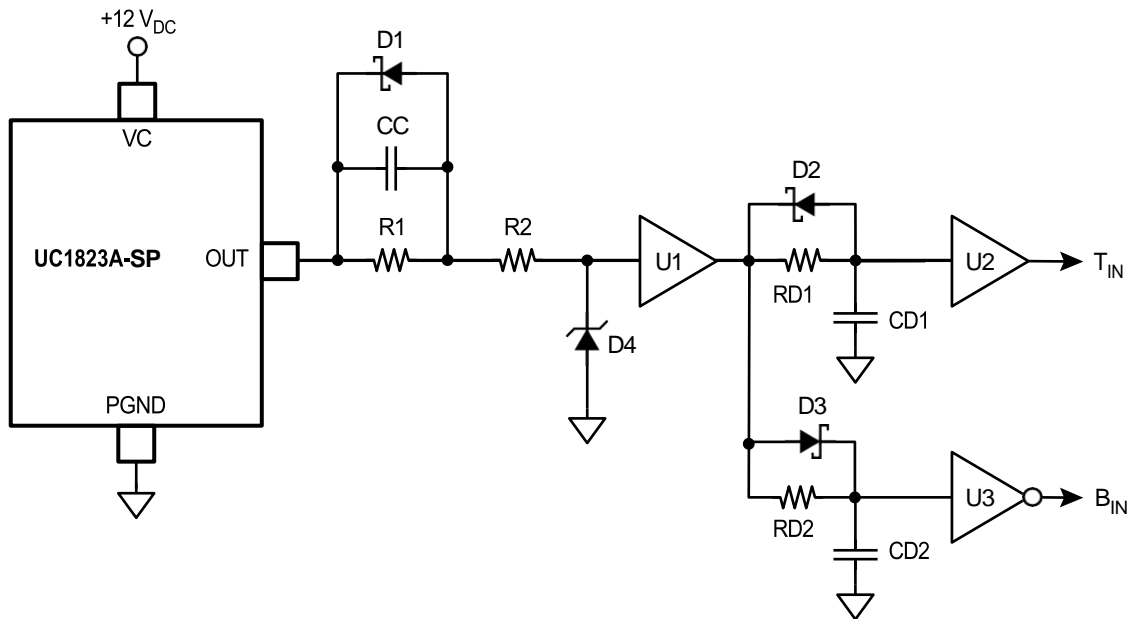
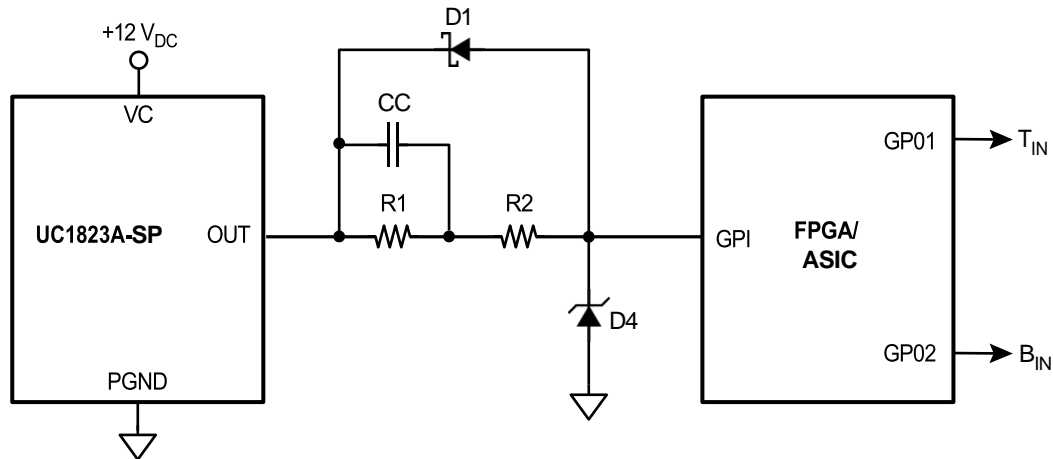
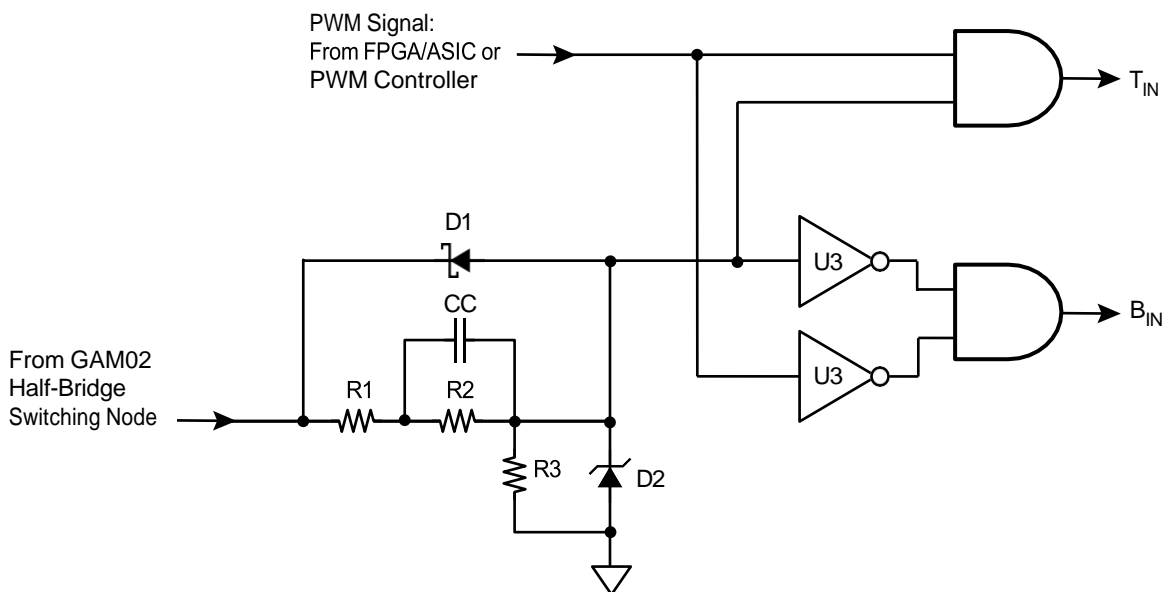

Figure 15. Zener Diode Logic Input Voltage Clamp Circuit and Dead Time Delay Circuit
Figure 16. Zener Diode Logic Input Voltage Clamp Circuit with ASIC/FPGA Two-Phase Clock (With Dead Time) Generator
Figure 17. Adaptive Dead Time Control for Cross-Conduction/Shoot-Through Avoidance
A Zener diode may be used to clamp the B_{IN} and T_{IN} logic inputs of the FBS-GAM02-P-C50 in order to interface the module to a high output voltage level PWM controller, as shown in Figure 15. The output of the UC1823A is a totem-pole configuration, and the output switches between $0 V_{DC}$ and $12 V_{DC}$ as logic 0 and logic 1, respectively. The transition times between logic states for a 1000 pF load are typically 20 ns, but much faster with lighter loads.
The same Zener diode clamping circuit as shown in Figure 15 may be used to clamp the output of the UC1823A to a lower voltage level in order to present it to an ASIC/FPGA in order to generate the requisite two-phase clock signals for the B_{IN} and T_{IN} logic inputs of the FBS-GAM02-P-C50. A typical circuit for this circuit implementation is shown in Figure 16:
In the circuit of Figure 16 all the high-speed and high accuracy analog functions associated with the PWM controller are performed off-chip from the FPGA/ASIC. The programmable logic of the FPGA/ASIC and the associated firmware code is responsible for generating the two-phase clock with dead times required by the B_{IN} and T_{IN} inputs of the FBS-GAM02-P-C50.
In circuits shown in both Figure 15 and 16 the dead times required by the FBS-GAM02-P-C50 to avoid cross-conduction/shoot-through are generated in a “brute force” manner either with analog components (Figure 15) or with programmable logic and firmware in an FPGA/ASIC (Figure 16). There is another way to obtain the optimum dead times for the FBS-GAM02-P-C50 device – adaptive dead time control, as shown in Figure 17.
Adaptive dead time control utilizes the state of the switching node (SN) of the GAM02 in order to allow the B_{IN} or T_{IN} signals (in this case the B_{IN} signal is the simple logical inverse of the T_{IN} signal) to be applied to the B_{IN} or T_{IN} logic inputs of the FBS-GAM02-P-C50 in order to avoid dynamic cross-conduction/shoot-through in the low- and high-side output power HEMTs. If the switching node of the FBS-GAM02-P-C50 is “low” (i.e. at PGND) then the low-side switch is turned ON, or in the process of turning OFF, and the high-side switch must not be turned ON (i.e. a logic 1 applied to the T_{IN} input). Similarly, if the switching node is “high” (i.e. at V_{DD}), then the high-side switch is turned ON, or in the process of turning OFF, and the low-side switch must not be turned ON (i.e. a logic 1 applied to the B_{IN} input). However, if the B_{IN} input is logic 0 and the switching node is “high” (i.e. the high-side catch Schottky conducting load current) then the T_{IN} input may be set to logic 1 to turn on the high-side driver. This same situation applies to the high-side driver: If the T_{IN} input is logic 0 and the switching node is “low” (i.e. the low-side catch Schottky is conducting load current) then the B_{IN} input may be set to logic 1 to turn on the low-side driver. The circuit shown in Figure 17 relies on a similar voltage clamping scheme for the switching node as was utilized in Figures 15 and 16, with the exception that the power supply V_{DD} , and subsequent range of the switching node, could be much higher than $12 V_{DC}$ – in fact up to $50 V_{DC}$ for the FBS-GAM02-P-C50. So greater care must be exercised in the selection of the clamping components to avoid excessive power dissipation in them, and the associated decrease in circuit efficiency. It is strongly recommended to simulate the circuit once the components have been selected to ensure that the proper clamping level is achieved and that the power dissipation of the clamp circuit is kept to a reasonable level so as not to affect overall circuit operating efficiency.